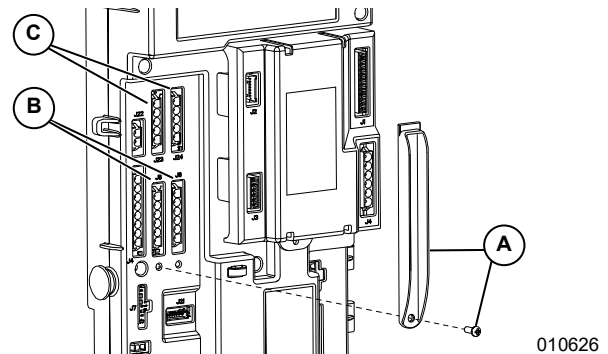

Figure 1-10. Remove/Install Interlock Plate
- See **Figure 1-10**. Remove the screw and interlock plate (A).